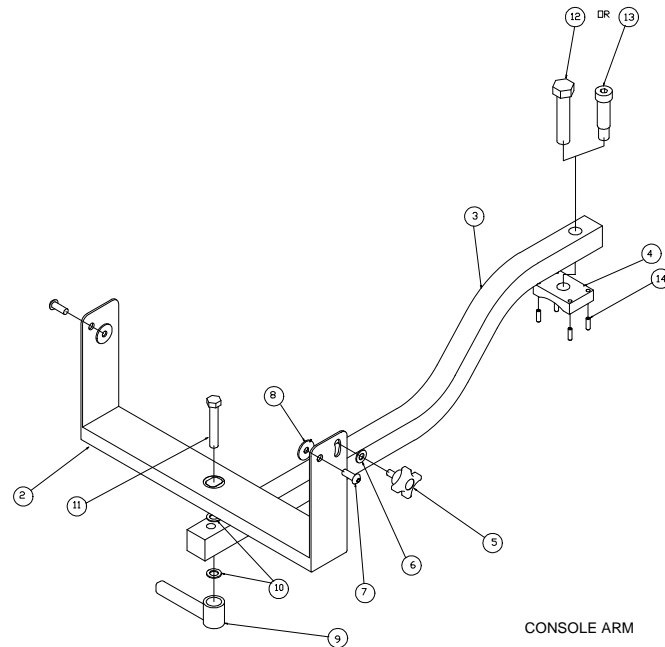

Figure 3-43, Console Arm and Mounting Bracket
1. Locate the Console Arm Mounting Kit, P/N 33000844. This box contains the console mounting arm, P/N 23000171, the console mounting yoke, P/N 23000185, one adjustable handle, P/N 86800109, and the hardware. Refer to **Figure 3-43, Console Arm and Mounting Bracket**.